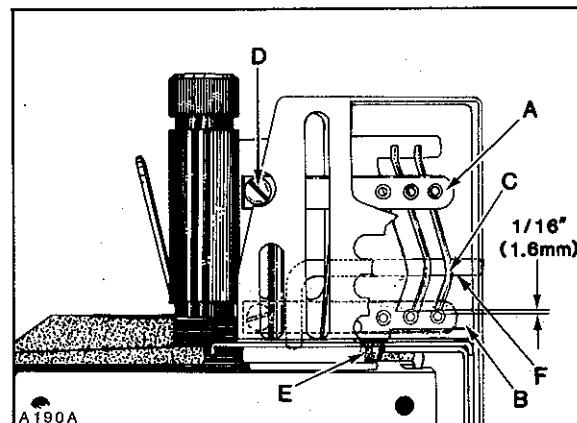

Fig.25
Needle bar eyelet (A, Fig. 25) should be set with its eyelets  $1/16$  inch (1.6mm) below strike-off (B) on needle thread take-up cam wire (C), as shown in Figure 25, with needle bar at BOTTOM of stroke.